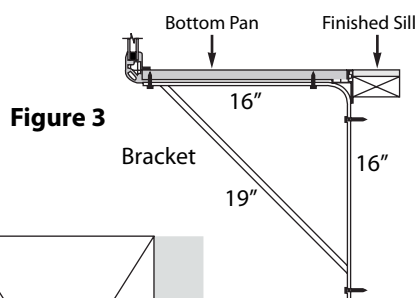

Figure 3
3. Center the Tru-Frame® Greenhouse Window in rough opening allowing equal clearance on both sides and top. Bottom pan should line up with the finished sill height, allowing for any inside additional material such as tile (see figure 3). Attach window to jambs, sill and header with screws long enough to penetrate through any furring strips and at least 1-1/2" into framing, every 12". A ribbon of caulking between the frame and flashing is a must.
4. On 5'-0" to 6'-0" wide windows, support bracing is required on each end of the window (Warranty will be void without proper support). These supports can be constructed as part of the wall framing or metal support brackets may be fabricated to adequately support the window. Fasteners to be supplied by installer (1/4" x 3" lag screws are suggested for wall mounting). Brackets must attach to the vertical studs below the window (see figure 3).
5. Fastening the bracket to the bottom pan is not necessary. If fasteners are desired, the MAXIMUM screw length will be 3/4" as shown in Figure 3. Use caution when attaching as not to penetrate the inside pan surface.